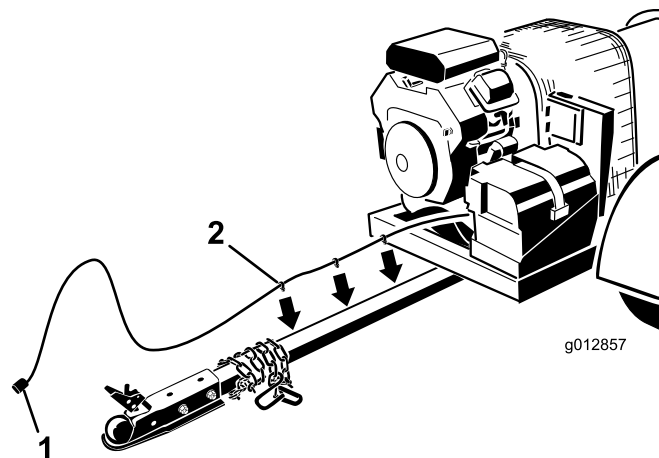

Figure 10
3. Route the wire harness along the right side of the hitch tube (Figure 10).
4. Plug the harness clips into the holes in the side of the hitch tube to secure it (Figure 10).